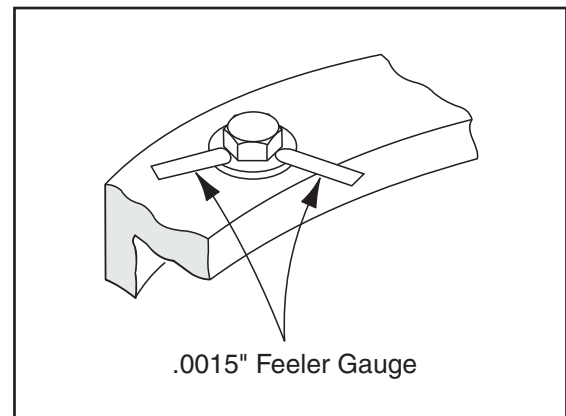
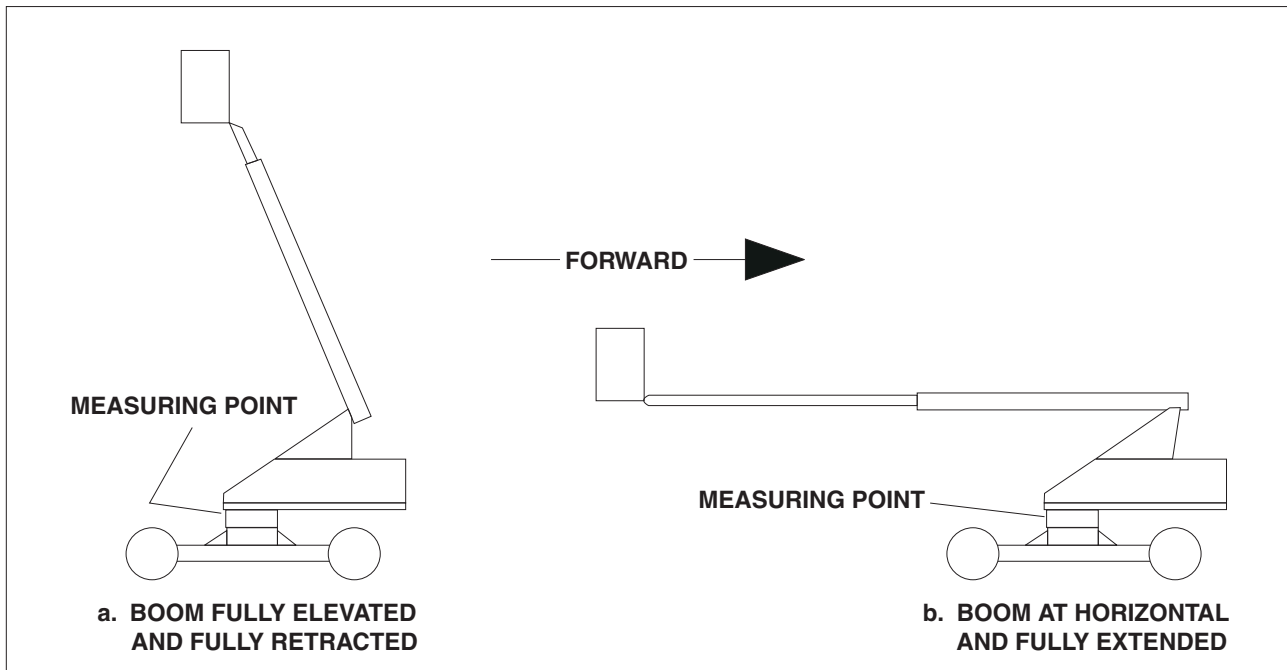

Figure 2-15. Swing Bearing Bolt Feeler Gauge Check
Figure 2-16. Swing Bearing Tolerance Boom Placement
2. At the positions indicated on Figure 2-15. try and insert the .0015" feeler gauge between the bolt head and hardened washer at the arrow indicated position.
4. At the position indicated on figure 2-15. try and insert the .0015" feeler gauge between the bolt head
1. From the underside of the machine, at rear center, with the boom fully elevated and fully retracted (See Figure 2-15.), measure and record the distance between the swing bearing and the frame using a magnetic base dial indicator. (See Figure 2-16.)
2. At the same point, with the boom at horizontal and extended until red marking band on mid section is exposed (See Figure 2-6.), measure and record the distance between the swing bearing and frame using a magnetic base dial indicator. (See Figure 2-16.)